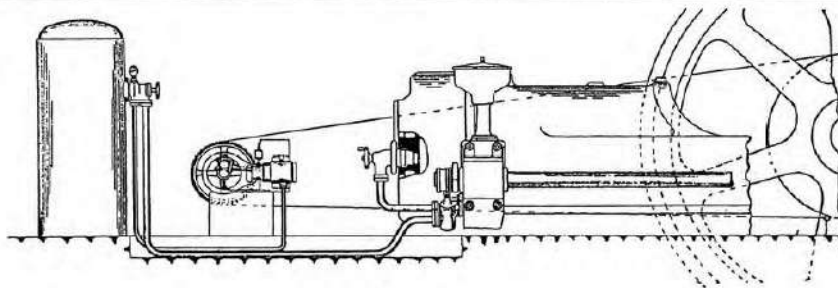

Fig. 7.
- (2) On sizes O or OE 120 to 123, as illustrated in Fig. 7, the receiver is charged with compressed air direct from a belt driven air compressor, driven either from the main engine or from a countershaft supplied by owners. After the engine is started each day, the storage tank is charged up with air to the maximum pressure by means of this air compressor.